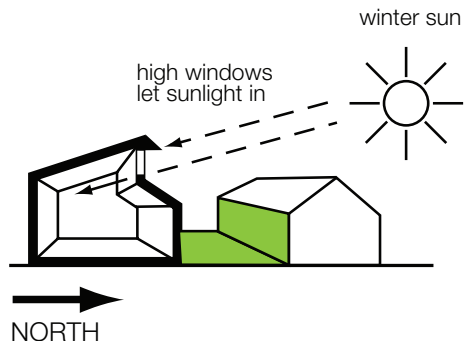

Figure 6: Overcome problems of winter overshadowing with clerestory windows
- > If solar access is poor, consider alternative methods to gain northerly winter sunlight into the home, such as using high clerestory windows (see Figure 6).